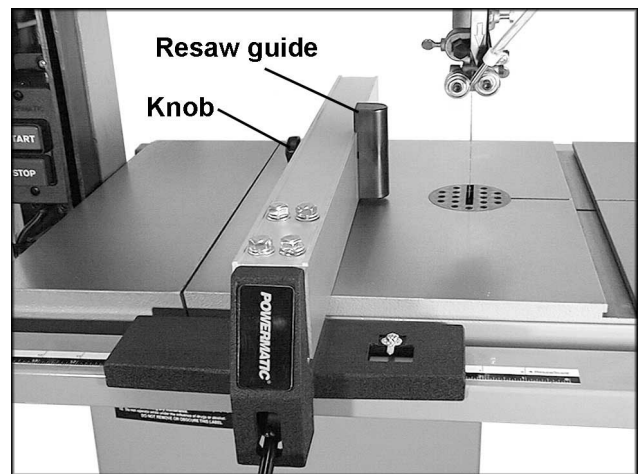

Fig. 20
- For resawing operations attach the resaw guide (Fig. 20) to the fence with the knob. There is a slotted hole in the fence that will accommodate the resaw kit. Position the resaw guide so that it is centered with the front edge of the saw blade. The resaw guide will give you a taller, single-point contact surface during resawing.